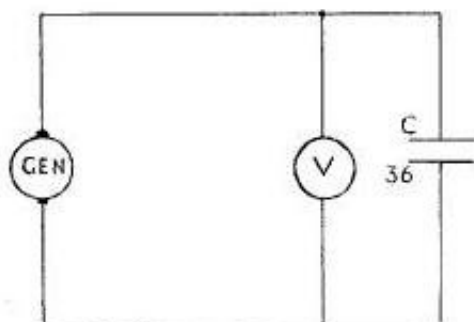

Fig. 4 Test circuit
(5) Capacitor 36 μ F, 200V, see test circuit fig. 4.
(2) Check output voltage (fig. 4) by connecting voltmeter into the test circuit. Output should be 20V d.c. at 1000 r.p.m. and be linear within $\pm 5\%$ over the speed range of 100 to 5000 r.p.m.
(3) Check ripple voltage by connecting cathode ray oscilloscope into test circuit. Maximum ripple voltage is 1 volt, peak to peak over the speed range of 100 to 5000 r.p.m.
(4) Check brush to brush resistance by running the generator for one minute at 1000 r.p.m. with no load across the leads. Connect ohmmeter to the generator leads. Rotate the shaft through 90° slowly, and the brush to brush resistance should not exceed 700 ohms.